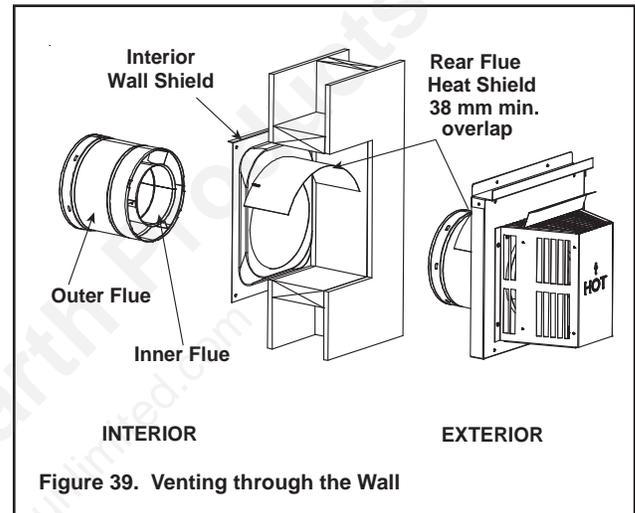

Figure 39. Venting through the Wall
- One section of the heat shield is attached to the wall shield. The other is attached to the termination cap in the same manner (see Figure 39).
- The small leg in the shield rests on top of the flue to properly space it from the pipe section (see Figure 39).